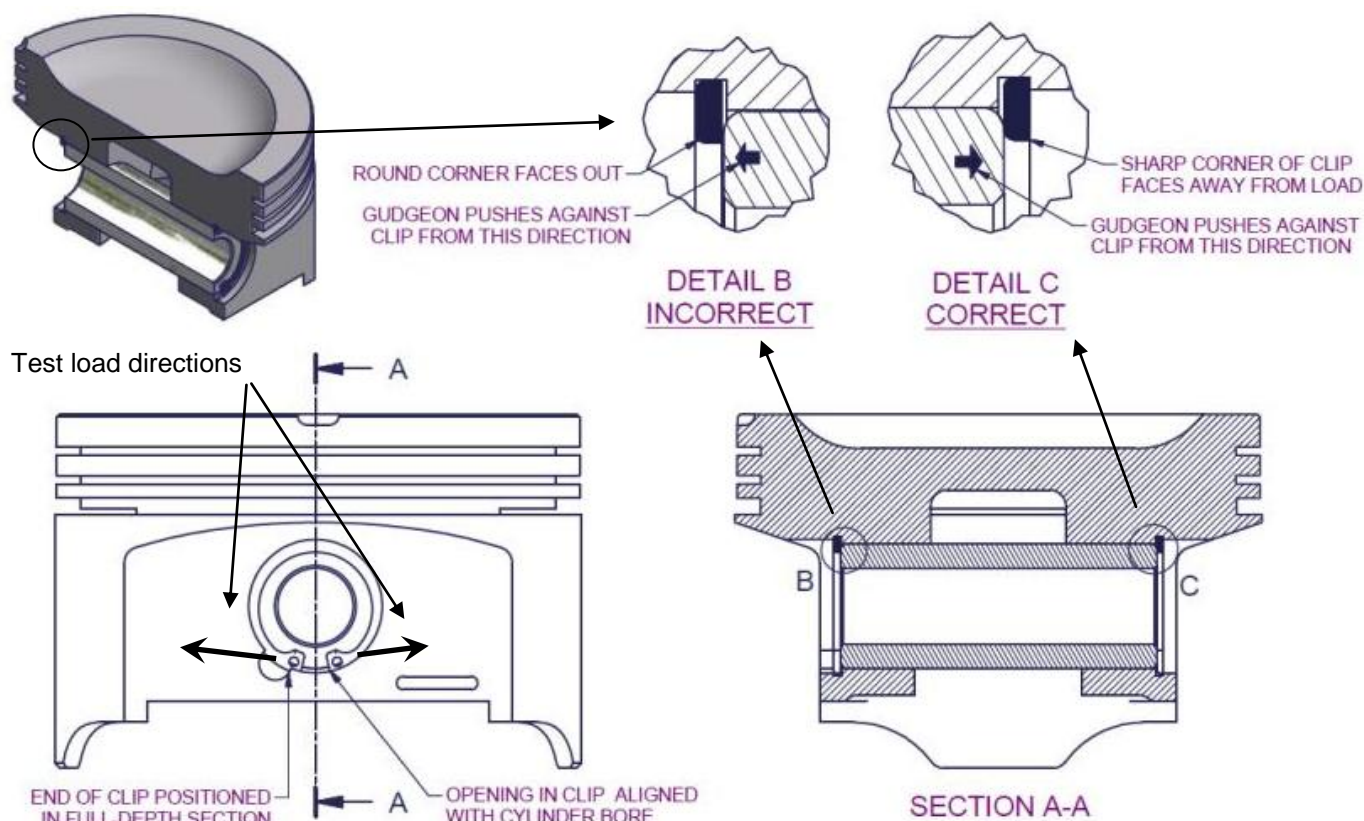

Figure 132 – Clip Installation Detail
- The clips must be installed so that the “rounded” side faces the item being retained (the gudgeon pin in this case). See Figure 132 for an illustration of the correct and incorrect orientation. A clip that is installed the wrong way won’t be able to carry as much load and will fail more easily.
- Orient the clip as shown in Figure 132: the opening in the clip faces along the axis of the barrel.
- Always give the installed clip a close inspection after installation. Use the circlip pliers or a small screwdriver or pick to check that it is tightly in place – as shown in Figure 132, apply an “opening” load to the eyes to expand the clip. The clip should not move and should not spin in the piston. **If the clip moves, discard it and fit a replacement.**